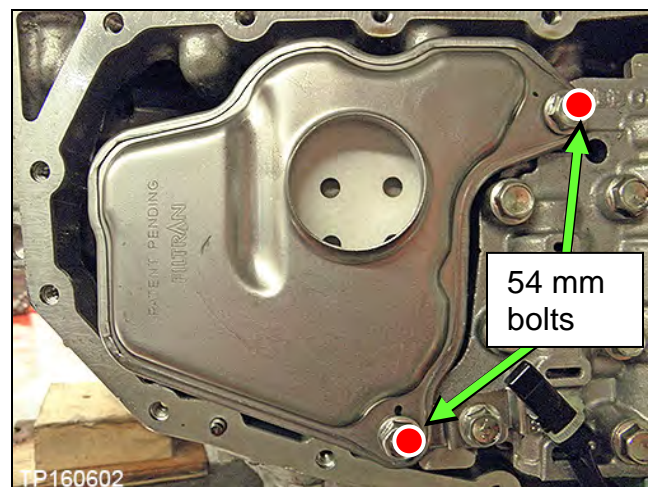

Figure 10J
6. Install the new oil strainer with its new O-ring seal with two (2) bolts (Figure 10J).